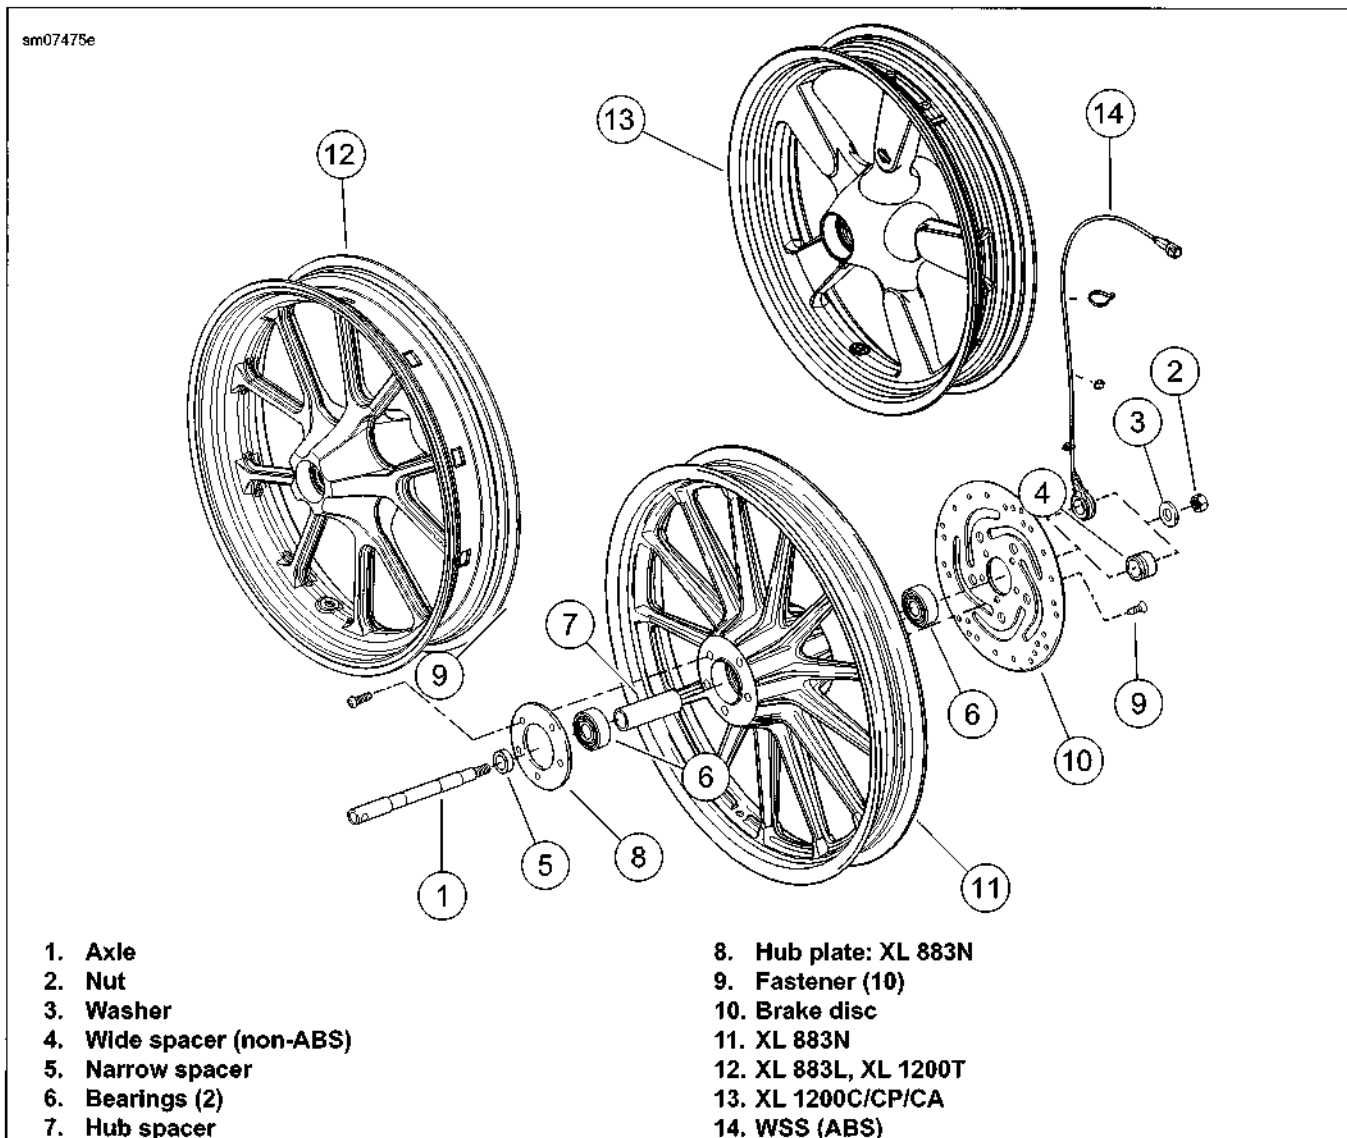

Figure 2-12. Single Disc Wheels
1. See Figure 2-12. Install hub spacer (7) and **new** wheel bearings (6). See 2.5 WHEELS, Sealed Wheel Bearings.
2. **XL 883N:** Install hub plate (8) on right side of wheel. Secure with **new** screws and tighten in an alternating pattern to 16-24 ft-lbs (21.7-32.6 Nm).